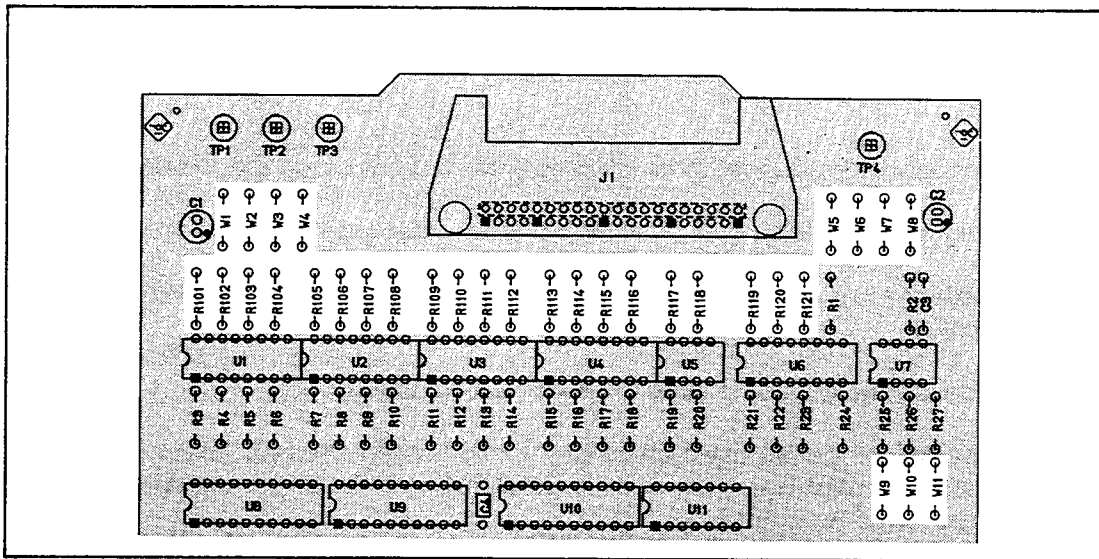

Figure 6-10. Jumper Settings
(1) ORANGE and BLACK (See Figure 6-10)